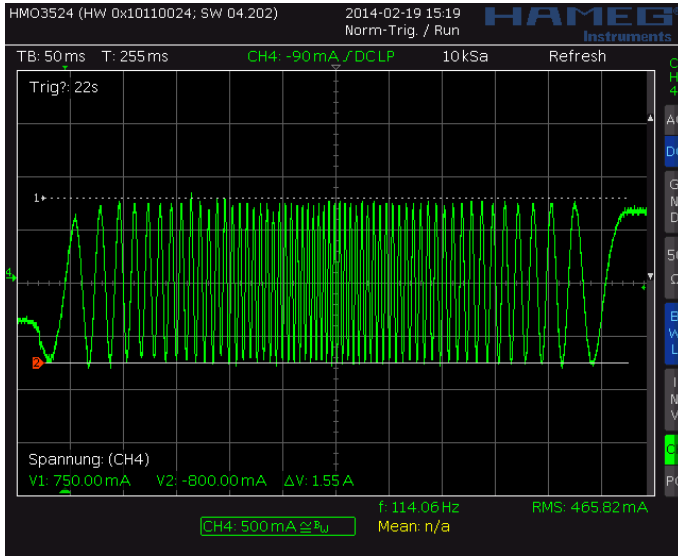
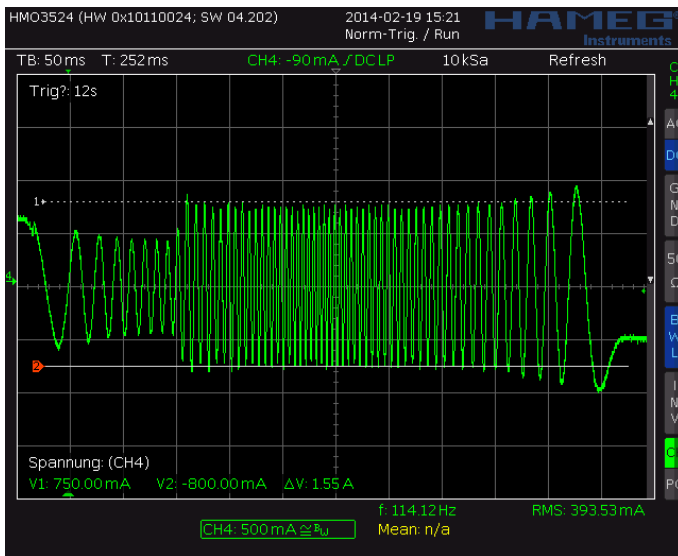
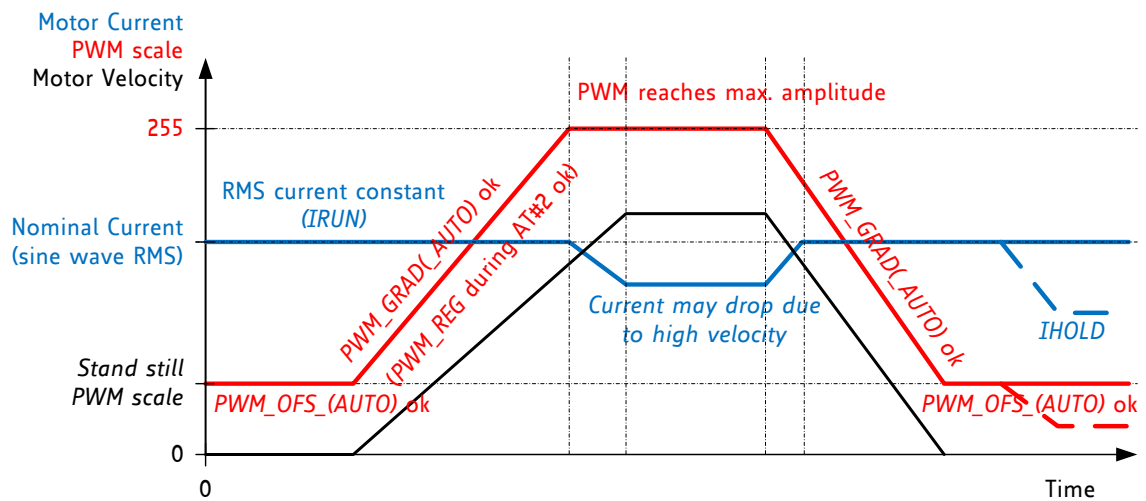

Figure 6.3 Scope shot: good setting for PWM_REG
Figure 6.4 Scope shot: too small setting for PWM_REG during AT#2
Figure 6.5 Successfully determined PWM_GRAD(AUTO) and PWM_OFS(AUTO)
In StealthChop voltage PWM mode, the autoscaling function ($pwm_autoscale = 1$, $pwm_autograd = 1$) regulates the motor current to the desired current setting. Automatic scaling is used as part of the automatic tuning process (AT), and for subsequent tracking of changes within the motor parameters. The driver measures the motor current during the chopper on time and uses a proportional regulator to regulate PWM_SCALE_AUTO in order match the motor current to the target current. PWM_REG is the proportionality coefficient for this regulator. Basically, the proportionality coefficient should be as small as possible in order to get a stable and soft regulation behavior, but it must be large enough to allow the driver to quickly react to changes caused by variation of the motor target current (e.g. change of $VREF$). During initial tuning step AT#2, PWM_REG also compensates for the change of motor velocity. Therefore, a high acceleration during AT#2 will require a higher setting of PWM_REG . With careful selection of homing velocity and acceleration, a minimum setting of the regulation gradient often is sufficient ($PWM_REG=1$). PWM_REG setting should be optimized for the fastest required acceleration and deceleration ramp (compare Figure 6.3 and Figure 6.4). The quality of the setting PWM_REG in phase AT#2 and the finished automatic tuning procedure (or non-automatic settings for PWM_OFS and PWM_GRAD) can be examined when monitoring motor current during an acceleration phase Figure 6.5.